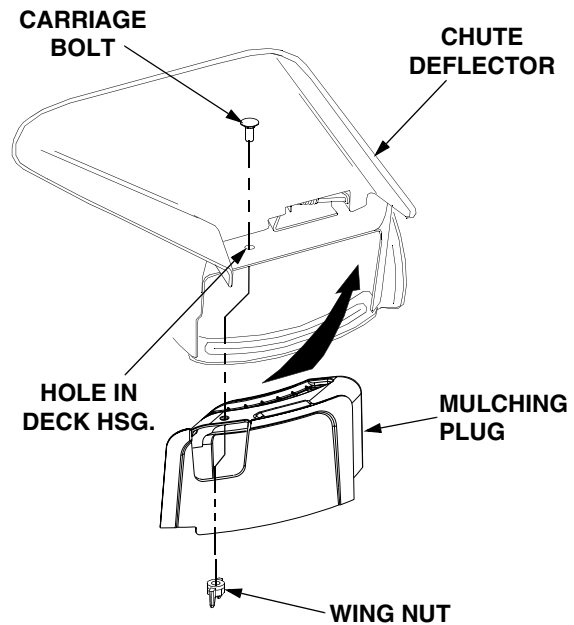

Figure 60
2. Lift the chute deflector upward and insert the mulching plug into the discharge opening of the deck (Refer to Figure 60).
3. Position the mulching plug so that its top hole aligns with the hole in the top of the deck housing. Install the carriage bolt through both surfaces and secure with the wing nut (See Figure 60).